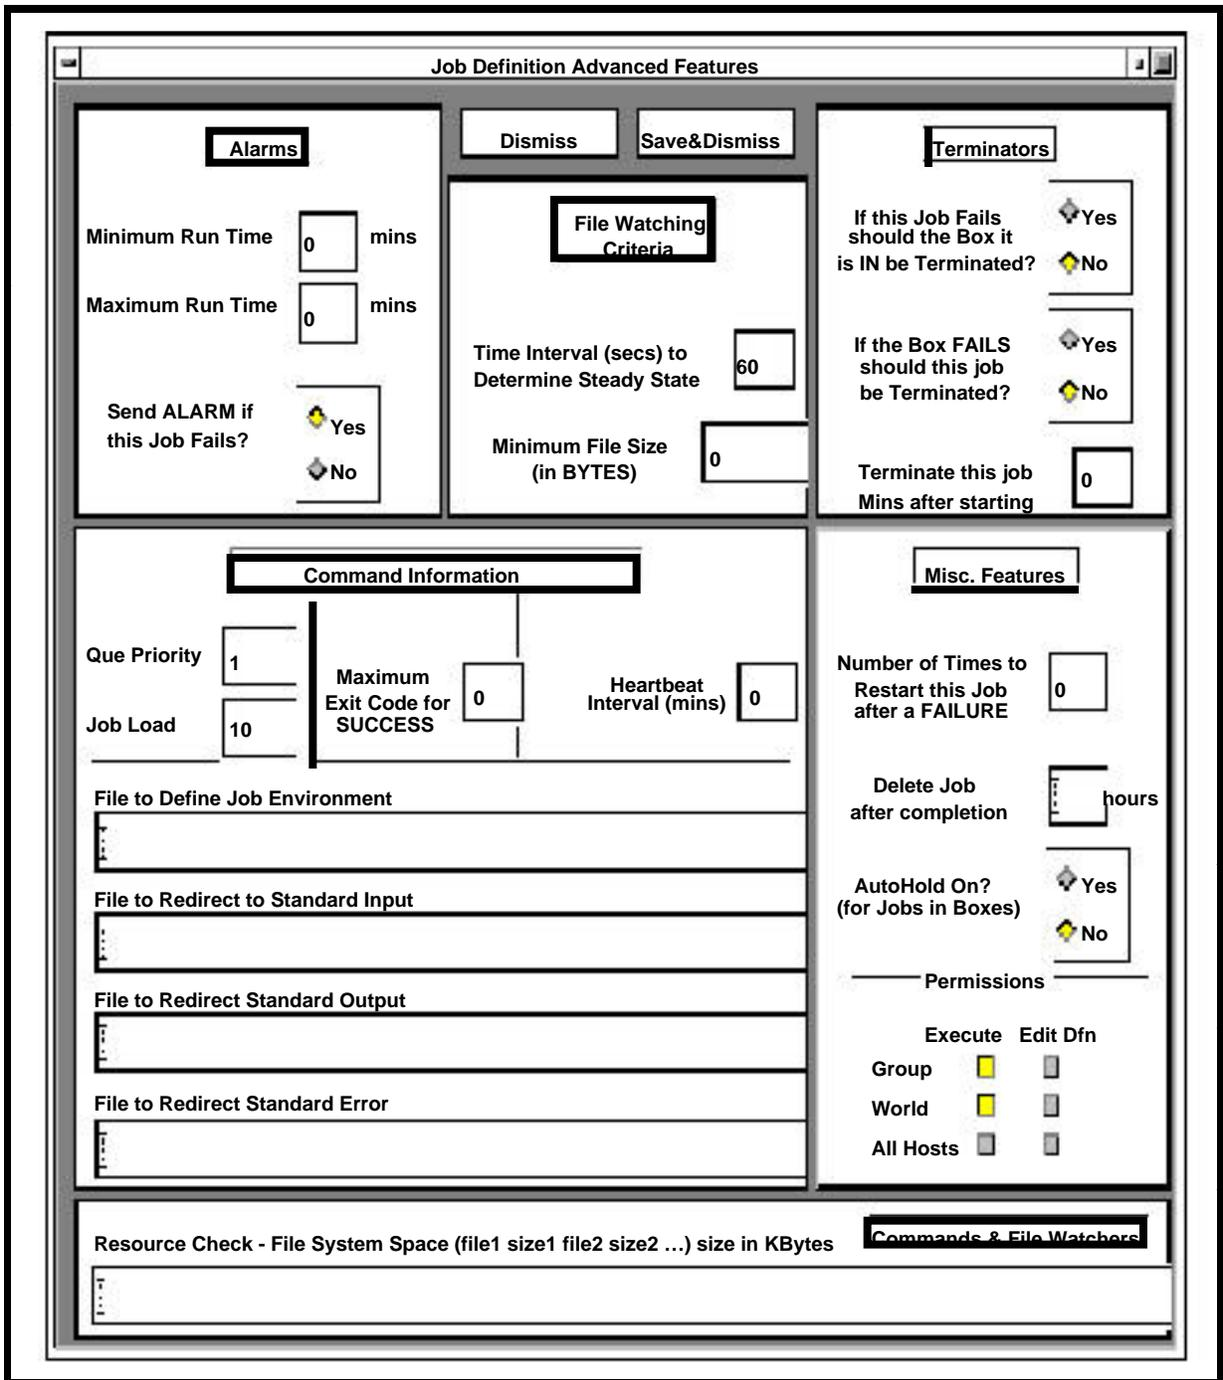

Figure 26. Job Definition Advanced Features GUI
- The **Job Definition Advanced Features** GUI (Figure 26) is displayed.